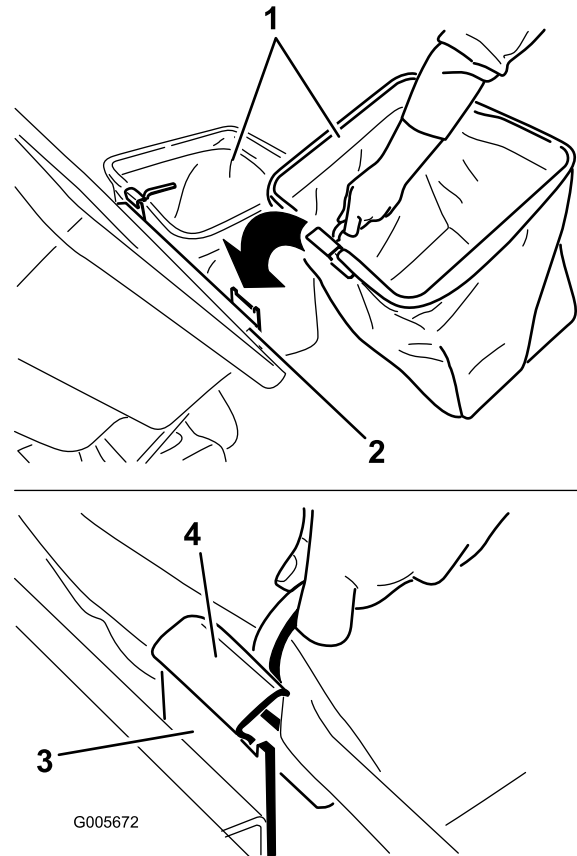

Figure 12
5. Install the bags by sliding the bag frame hooks onto the retaining brackets (Figure 12).